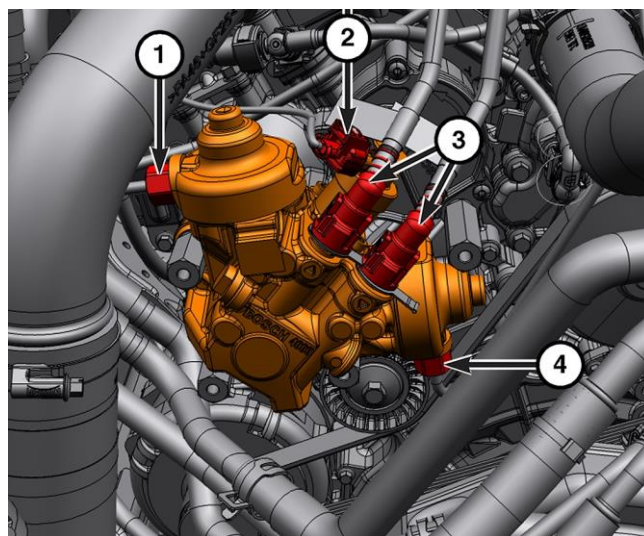

Figure 61 – HPFP Tubes and Lines
4. Remove the fuel rail supply tubes (1, 4) (Refer to 14 - Fuel System/Fuel Delivery/TUBE(S), Fuel/Removal and Installation) (Figure 61).
5. Disconnect the low-pressure fuel supply lines (3) (Figure 61).
6. Disconnect the fuel quantity solenoid wire harness connector (2) (Figure 61).
27. Connect the fuel injection pump electrical connector (2) (Figure 61).
28. Connect the low-pressure fuel return line (3) to the HPFP (Figure 61). **DO NOT** connect the low-pressure fuel supply line to the HPFP at this time.